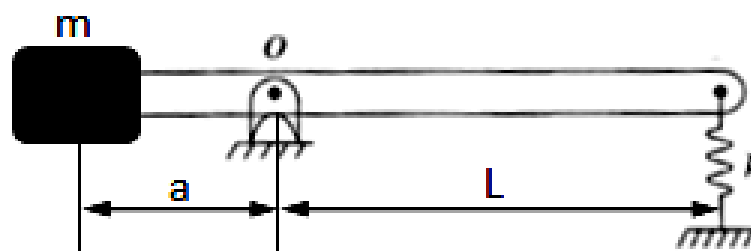

Fig.3
6. (a) Determine the equation of vibration and the natural frequency of vibration of the following system as shown in Fig.3.